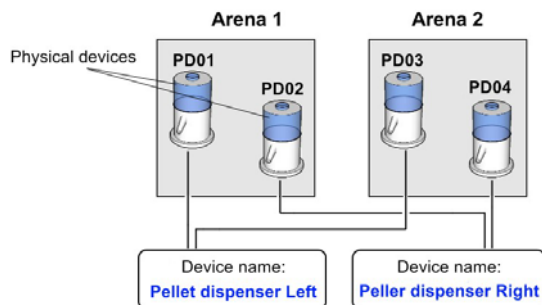

Figure 27 An example of mapping hardware devices in multiple arenas.
- **Physical device.** A single device identified by a ID number or code. Each physical device must be associated with a specific arena in your hardware configuration (see Figure 27). For example, PDo3 for a Pellet dispenser.
dispensers, you must define two **Device names**, for instance *Pellet dispenser Left* and *Pellet dispenser Right* (Figure 27). See **ASSIGN DEVICES TO ARENAS** on page 121.